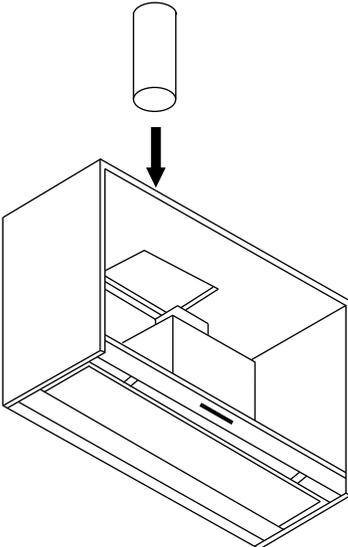

Fig 10
8. Insert ducting into motor (Fig 10).